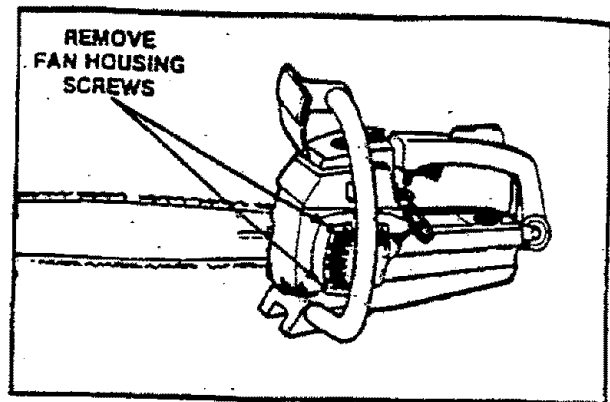

Figure 38
3. Remove the large screw at the rear of the control handle and the small screw directly below it. Figure 38.